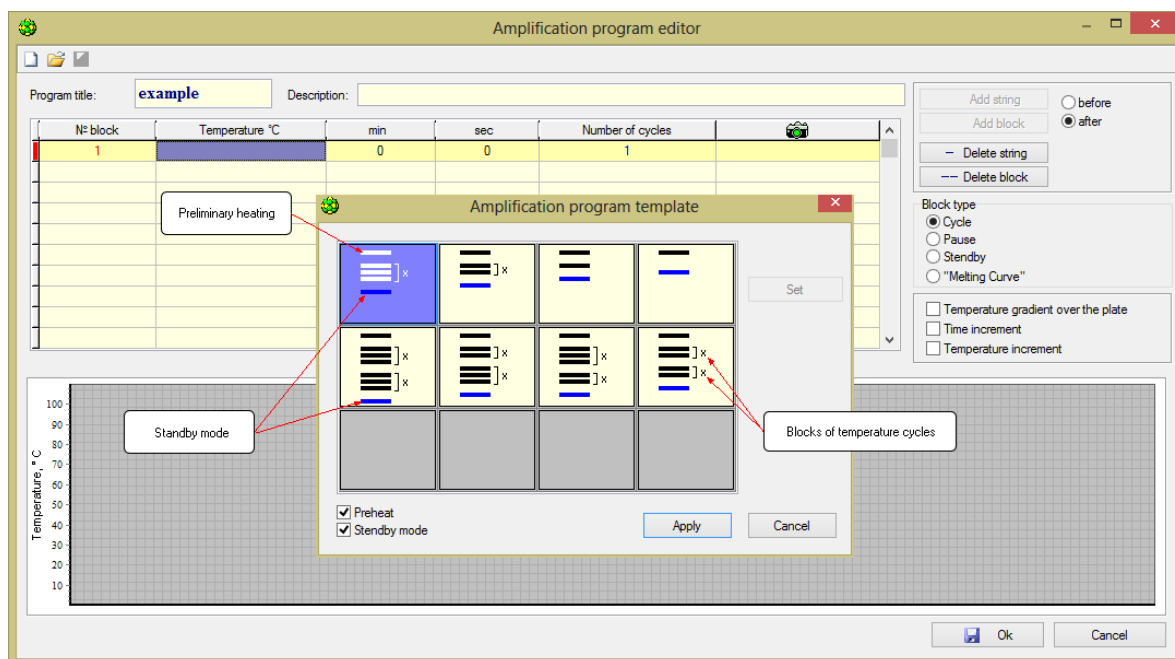

Fig.29 Amplification program template window
- When creating a new amplification program by any of these methods, an **Amplification program template** window appears on the screen (Fig.29). Using the template, specify the structure of the amplification program.
program template window (Fig.29) schematically shows the parts of the amplification program: two- and three-stage blocks of temperature cycles, preheating and storage modes.